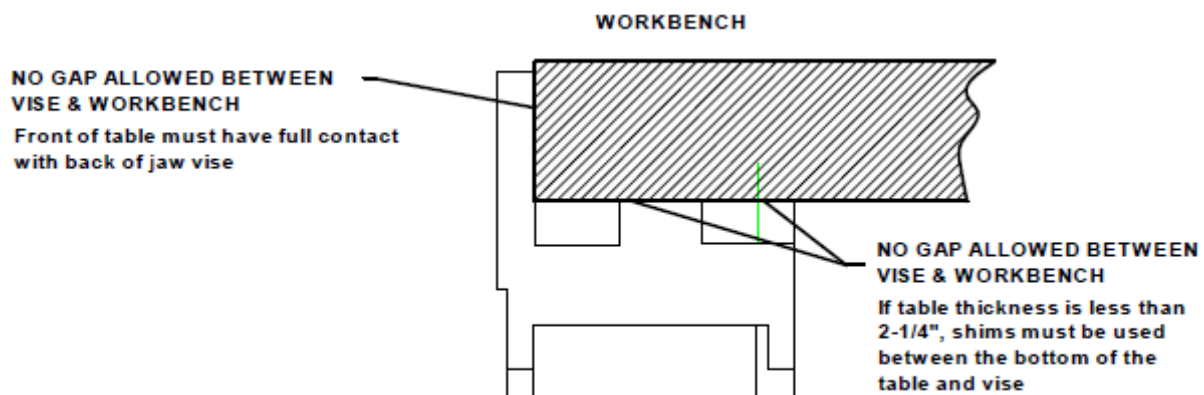

Figure 1: Mount Back Jaw Casting to Work Bench
- Any gaps between the casting and the workbench surface will cause flexing of the casting when tightened down, which could result in failure of the casting. Figure 1.
- MOUNTING HARDWARE: Use the #14 x 2-1/2" Counter-Sink Wood Screws (2) for the front edge mounting holes and the 5/16" x 2-1/2" Lag Screws (2) and the 5/16" Flat Washers (2) for underneath the workbench